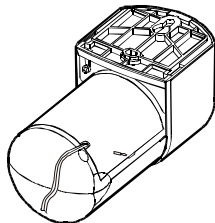

Fig. 12
4. Refit the battery cover and ensure that the cable fits through the opening. Fig. 12